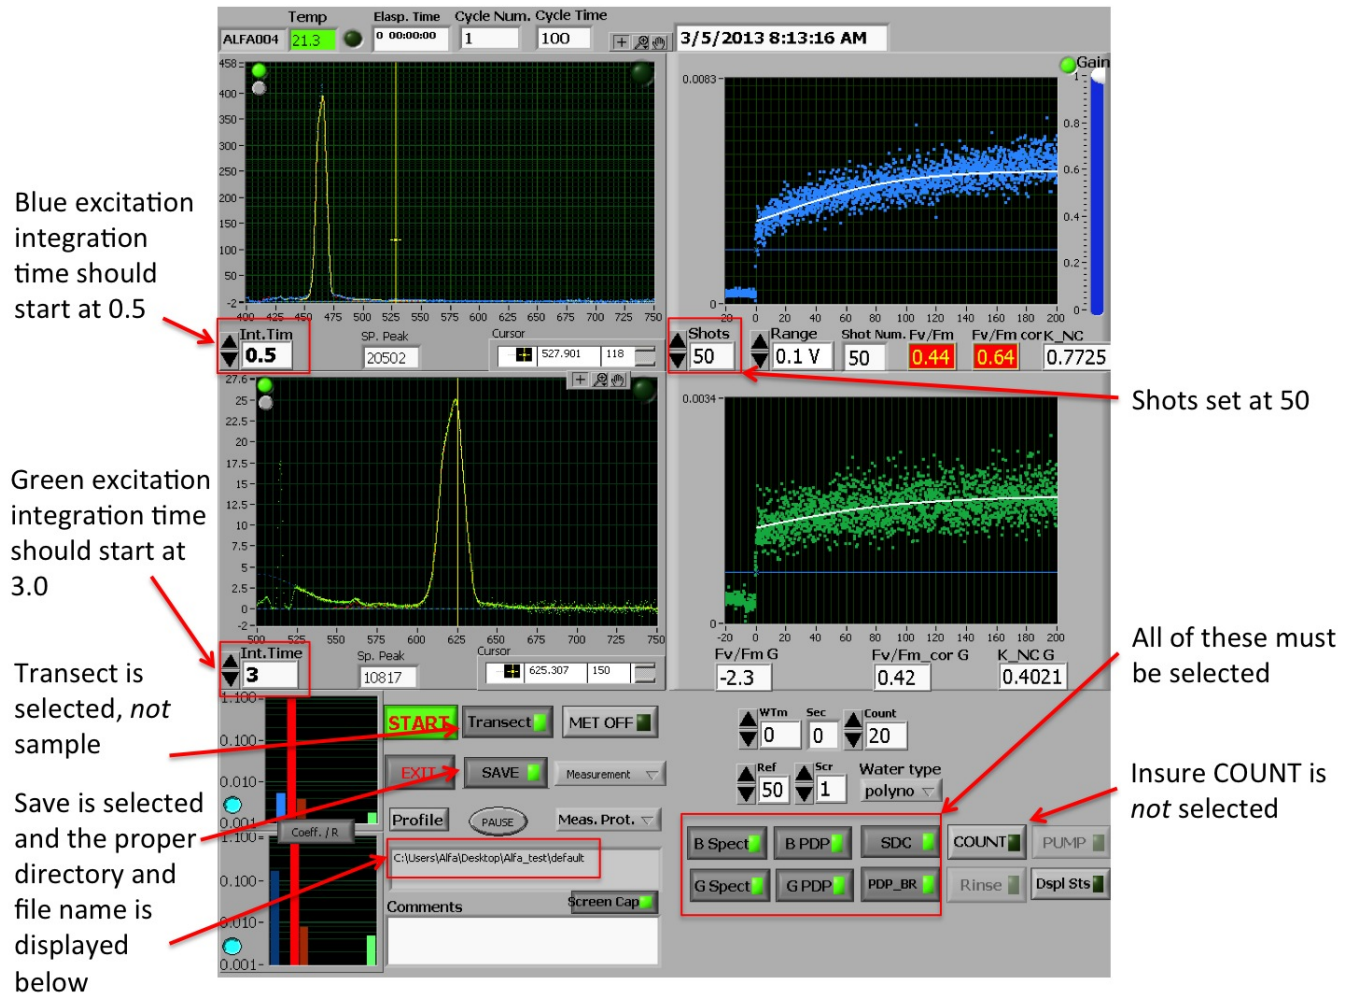

Figure 3: Screen shot of correct ALFA software settings to collect data continuously.
7. Software should appear like the screen shot in the figure below (same as figure 3 in the manual)
7. Software should appear like the screen shot in figure 3